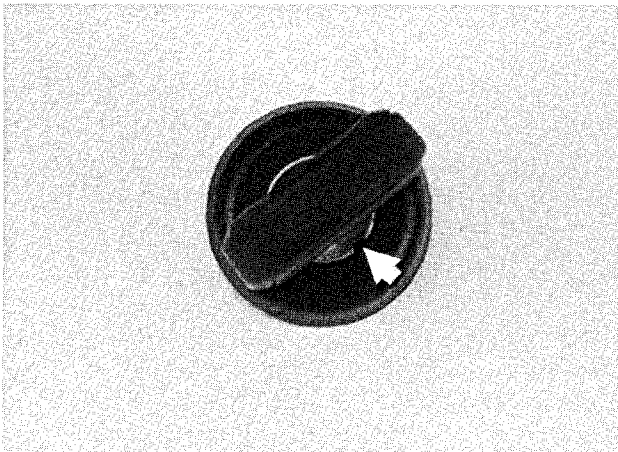

Fig. 7. Turn ignition switch 60° to “radio” position (arrow).
1. Insert master key into lock cylinder and turn 60° to “radio” position. See Fig. 7.